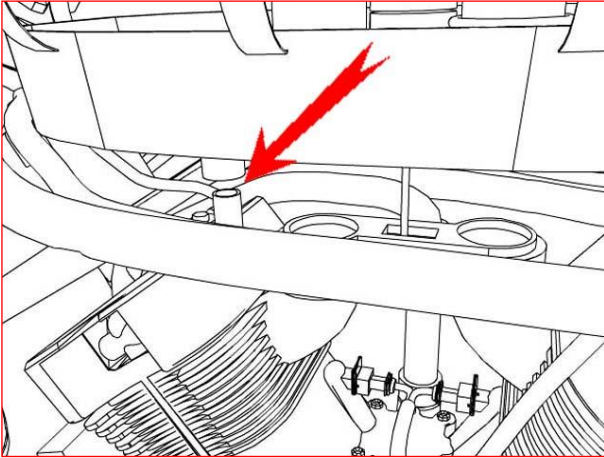

Figure 6
6. **Disengage the front crankcase breather hose and remove the airbox floor. There is no clamp on this hose. (see figure 6)**